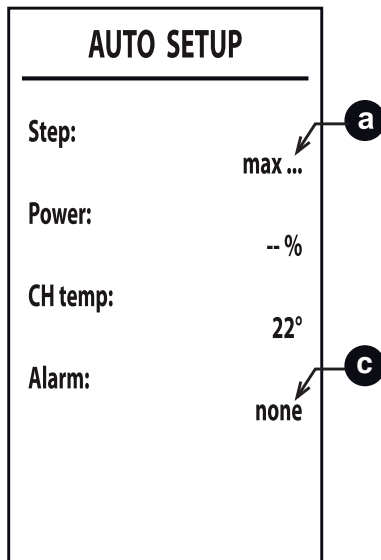

fig. 37
- 6 After ignition, the burner goes to heating at the various powers (max, med, min) indicated by point **a** (fig. 37). If the system heat dissipation is not sufficient to end the procedure, a DHW request can be activated **only after the burner has ignited**.
- 8 If the ignition sequence described in point "6" is unsuccessful, the message **max_err** will appear at point **a** and an error code at point **c** (fig. 37).